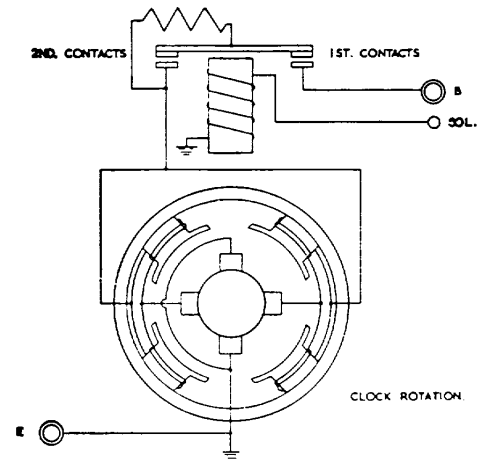

Fig. Q.11.
The first pair of contacts having closed, battery current flows through the resistance (9) and armature field windings (24). Since the resistance allows a **limited** current only, to pass through the field windings, the armature rotates very slowly. The electrical circuit is shown schematically in Fig. Q.11. This completes the first stage of the operation.